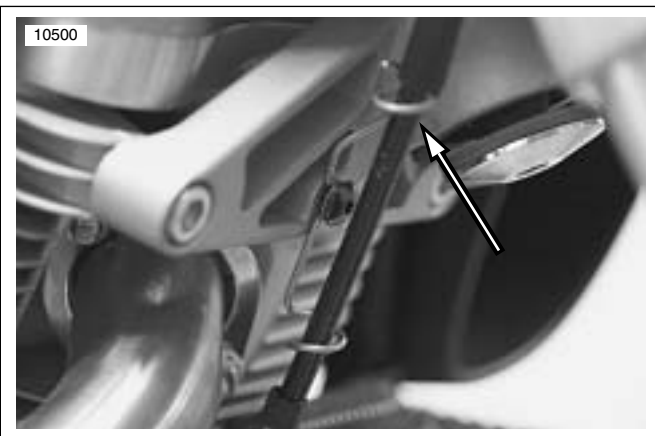

Figure 2-88. Clutch Cable Wire Form
2. See Figure 2-88. Remove clutch cable wire form.
10. Tighten front isolator bolt (6) to 49-51 ft-lbs (66-69 Nm).
11. See Figure 2-88. Install clutch cable wire form. Tighten fasteners to 84-92 in-lbs (9.5-10.4 Nm).